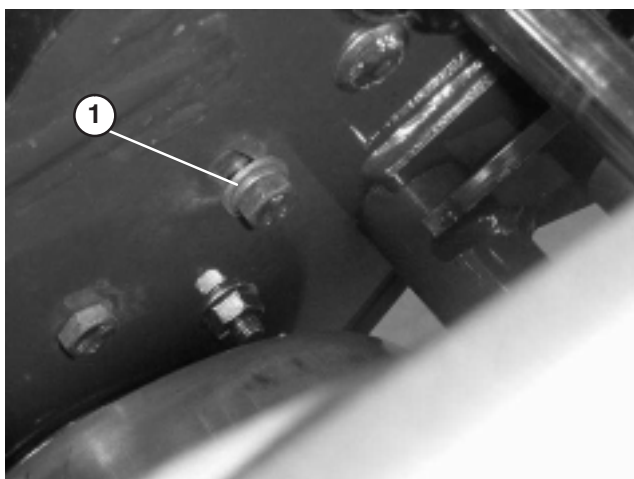

Figure 46
- A. On back side of side plate, loosen the capscrew securing the idler bracket to the side plate (Fig. 46).